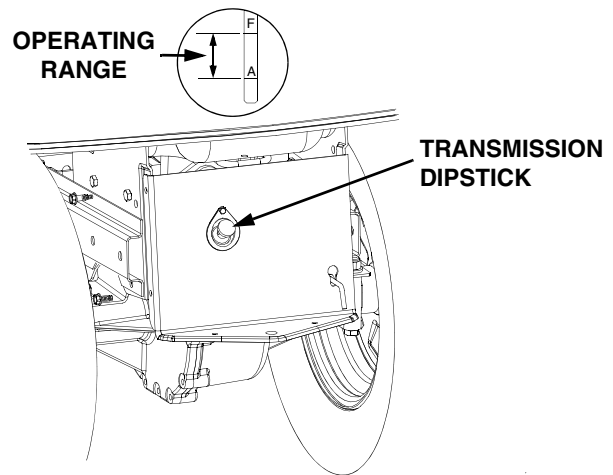

Figure 21
Check the oil level of the transmission case before each use to see that it is filled to the correct level. Before checking the transmission oil level, clean the area around the oil fill plug/dipstick to prevent debris from entering the transmission case. Always keep the oil level between the “FULL” and the “ADD” marks on the dipstick (See Figure 21). When checking the oil level, the dipstick must be withdrawn and wiped clean, then inserted all the way before being withdrawn for a true reading.
3. Remove the oil fill plug/dipstick from the oil fill port and SLOWLY pour oil into the oil fill port. Fill the transmission case until the oil level reaches the "FULL" mark on the dipstick (Refer to Figure 21).
6. Remove the oil fill plug/dipstick from the oil fill port and SLOWLY pour oil into the oil fill port. Fill the transmission case until the oil level reaches the "FULL" mark on the dipstick (Refer to Figure 21).